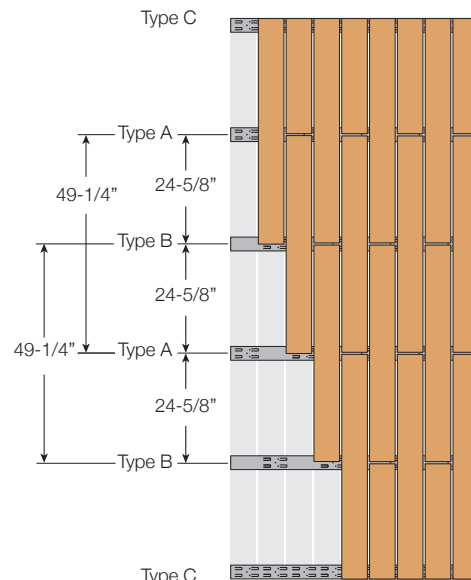

FIG. V8
- In an offset layout, the profiles will alternate between Type A, and Type B. The on center spacing from Type A to Type A and Type B to Type B will be 49.2" (1250mm). Note: Type C profiles are still required at the parapet, base, window sills, and window heads. (FIG. V8).